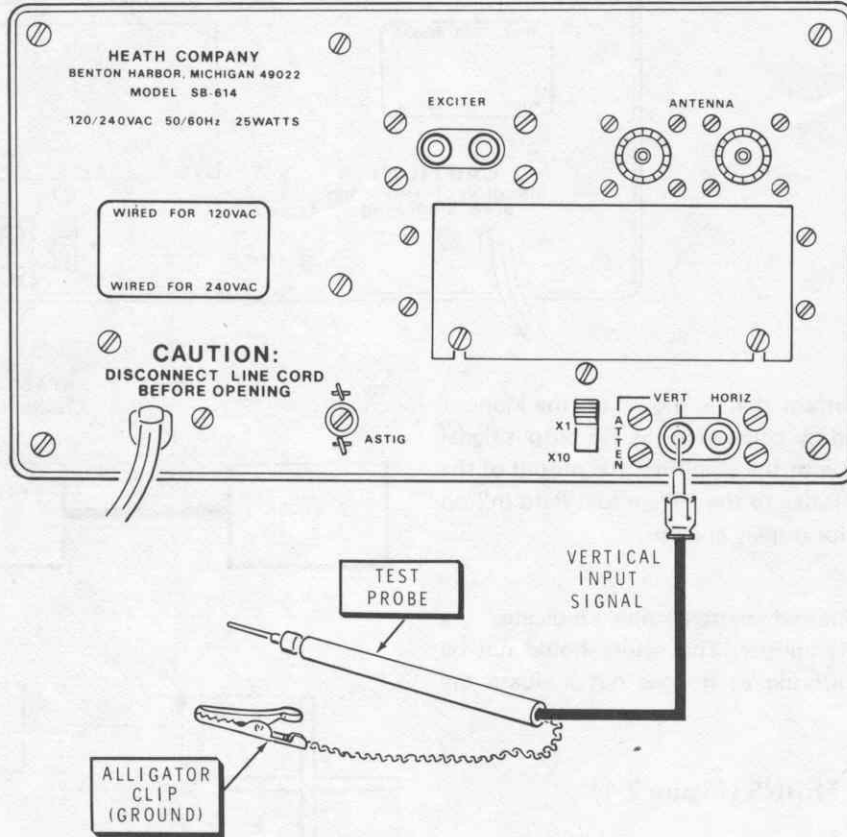

Figure 8-1
**OSCILLOSCOPE USE (Figure 8-1)**